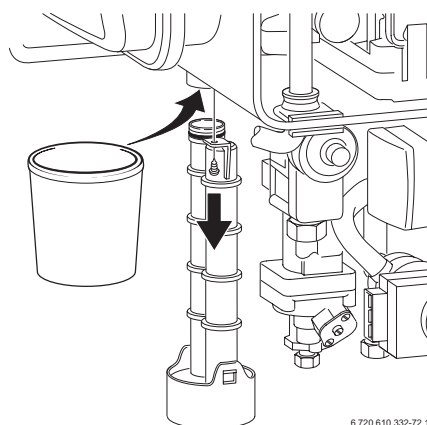

Fig. 46
- Unscrew condensation trap and place suitable container underneath. Refer to fig. 46.
In order to prevent spillage of condensate the condensation trap should be completely removed, (see page 37, fig. 46).